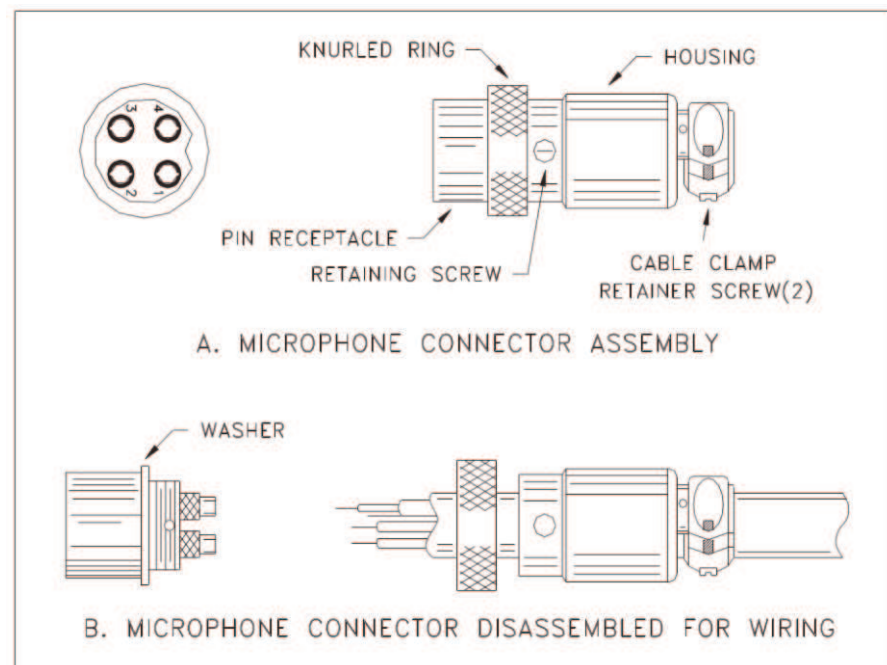

Fig. 2 Microphone plug wiring
4. Feed the microphone cable through the housing, knurled ring as shown Figure 2.
6. Be sure that the housing and the knurled ring of Figure 2 are pushed back onto the microphone cable before starting to solder.